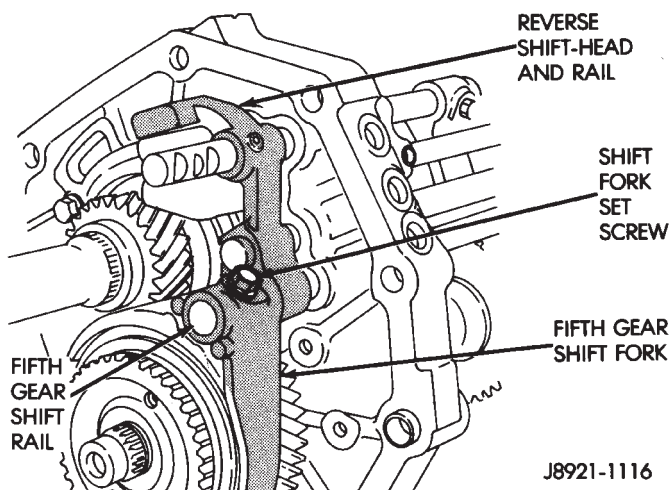

Fig. 103 Install Fifth Gear Shift Fork Retainer Bolt
(37) Install new bolt to hold fifth gear shift fork to shift rail (Fig. 103).